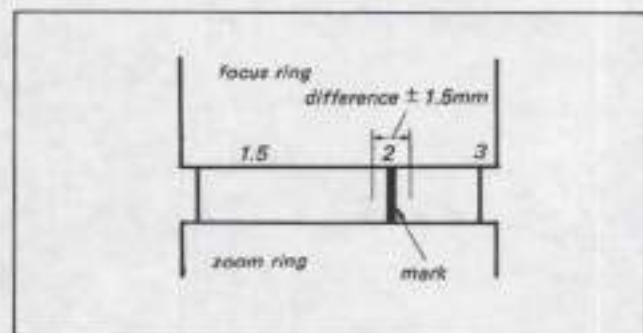

Fig. 2-33
- 3) Check that the difference between the 2m mark on the focus ring and the mark is $\pm 1.5\text{mm}$ when the focus ring is released. (Refer to Fig. 2-33)